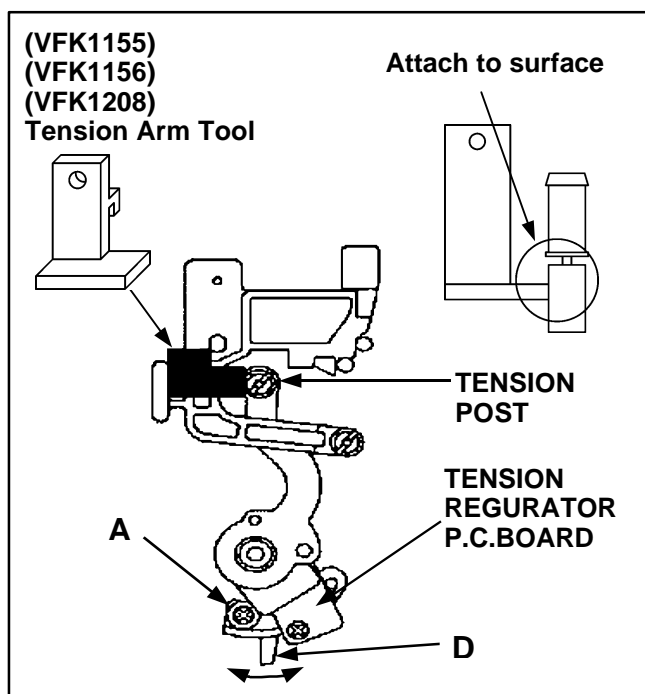

Figure 3-4-2
1. Set the VFK1208 (black with hole) as position as shown in figure 3-4-2.
4. Loosen the screw (A) and move the lever (D) with tweezers for adjust the sensor position so that the DC voltage at Test Point is within specification.
1. Set VFK1156 (black) as position as shown in figure 3-4-2.
5. Set VFK1156 (Silver) as position as shown in figure 3-4-2.